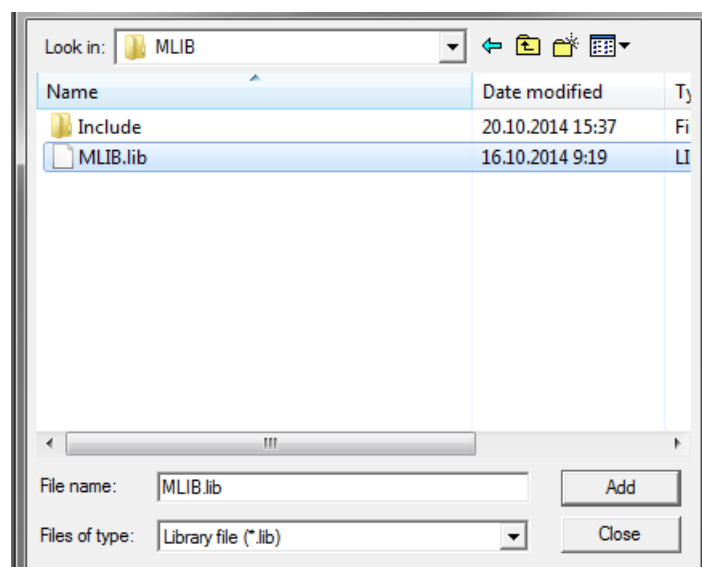

Figure 1-22. Adding .lib files dialog
5. Navigate to the parent folder C:\NXP\RTCESL\CM7F_RTCESL_4.6_KEIL\MLIB, and select the *mllib.lib* file. If the file does not appear, set the Files of type filter to Library file. Click Add. See Figure 1-22.